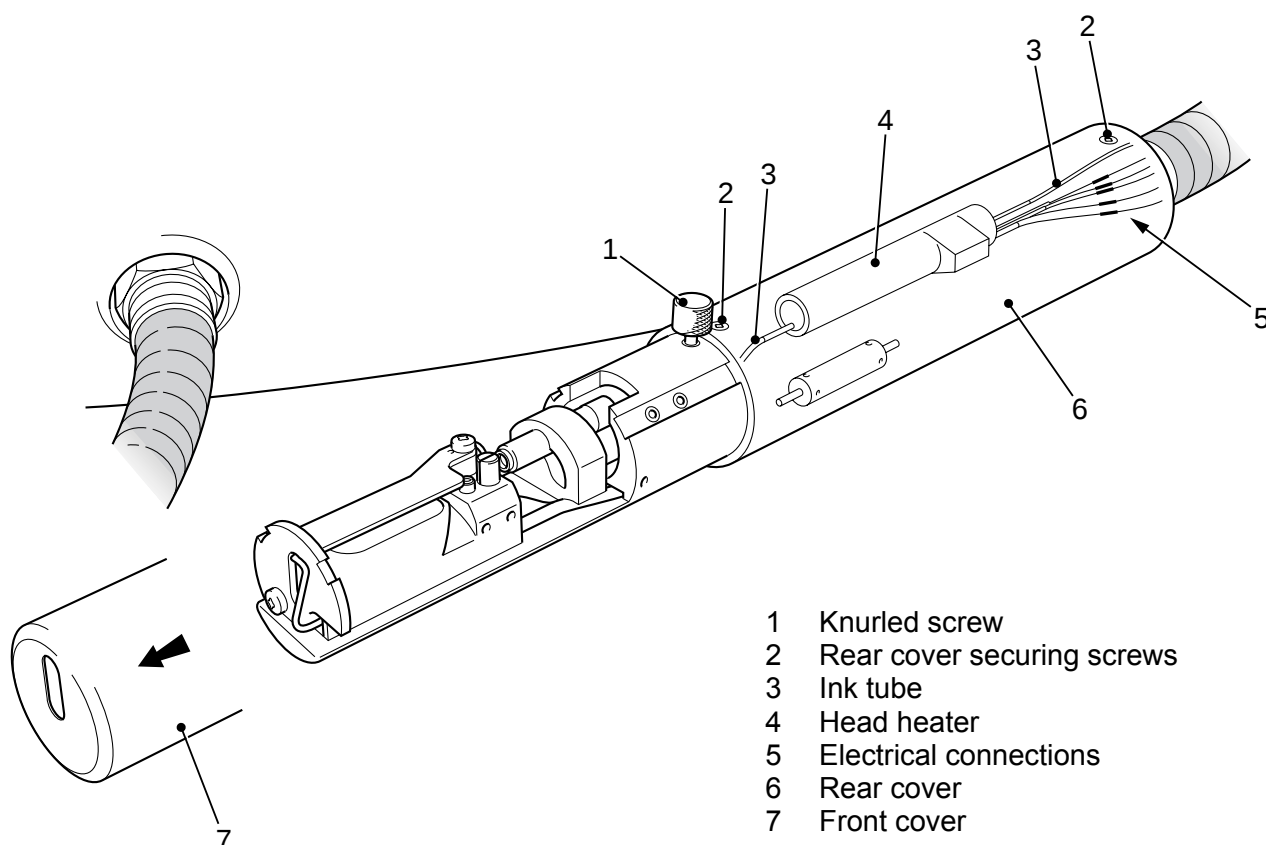

Fig 11.38 Head heater removal
- 60** To remove the head heater (Fig 11.38 (4)), proceed as follows:
- 60.1 Slacken the knurled screw (1) and slide the front cover (7) off the printhead.
61 To refit the head heater (Fig 11.38 (4)) to the printhead, proceed as follows: